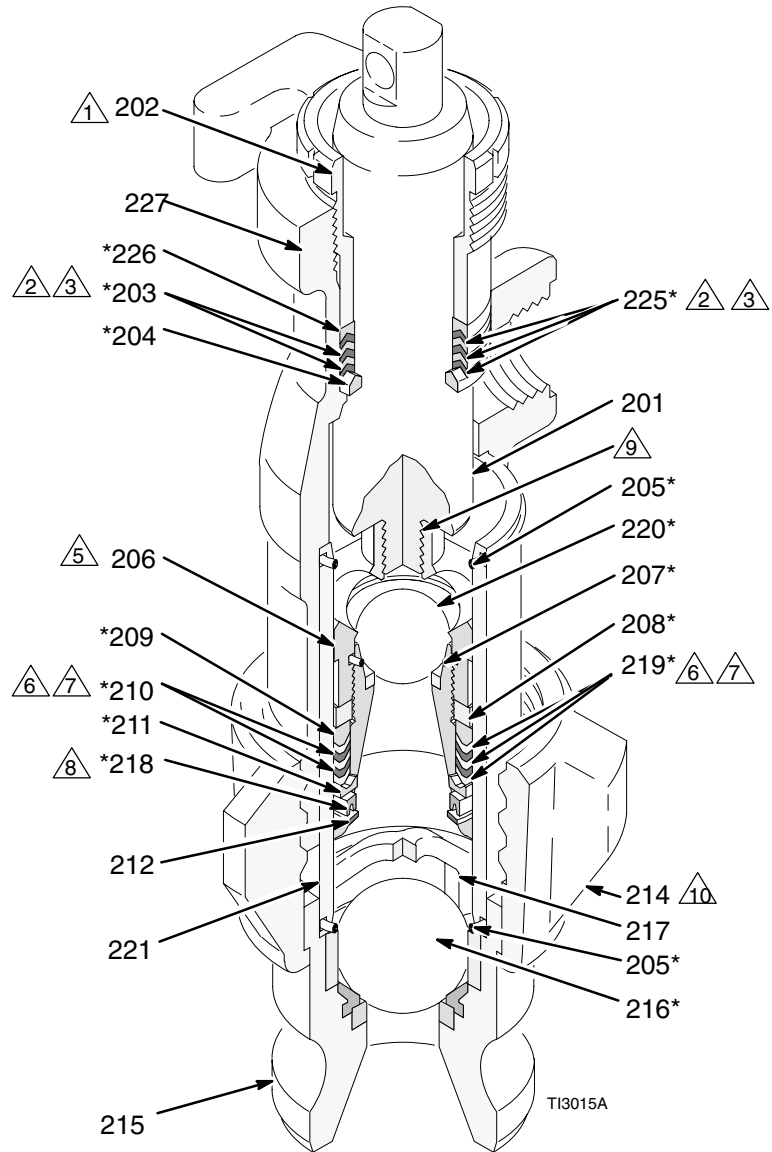

Fig. 7
2. Use a hammer on tabs of lug nut (214) to loosen foot valve housing.
3. Fig. 7. Disassemble pump, but do not disassemble piston rod (201) from piston housing (206) unless either needs to be replaced. These two parts are joined with high-strength (red) Loctite®. Joint must be heated to disassemble.
1. Fig. 7. If piston rod (201) and piston housing (206), were disassembled, clean threads thoroughly. Apply Loctite primer and then red Loctite to threads and torque to 80 to 100 ft-lb (110 to 135 N.m). Allow to dry at least 1 hour.
2. Assemble onto piston seat (213): washer (212); u-cup seal (218*) with lips toward ring; female gland (211*) and then alternate white (210*) and purple packings (219*), all with lips facing up; male gland (209*).
3. Install nut (208*) on piston seat (213). Hand tighten nut firmly.
4. Install ball (220*) in piston housing (206).
5. Apply blue Loctite to piston seat (213) threads and screw assembly onto rod, hand tight.